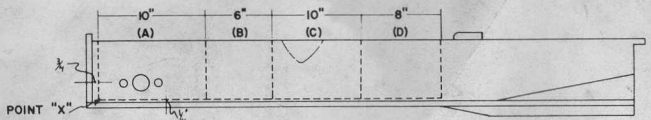
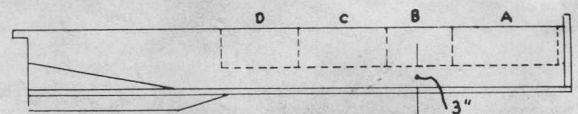

FIG 5
FIG. 7
The design of the Super "T" necessitates that the gear shift, brake and clutch assembly be moved rearward. (See Fig. 5 & 6)
To move pedal assembly and gear shift, the tunnel must be cut and sections interchanged. (Figs. 5 & 6)
Scribe areas of tunnel to be cut. Start at point "X" (see fig. 5), scribe back along tunnel 34 inches. At these points scribe up and over tunnel to a point 3 inches above floor pan on passenger's side (see fig. 7). Now scribe forward, 3 inches above pan, to a point 3/4 inch back from cowlings, then over tunnel to meet point "X".
Cut along scribed lines (fig. 5). Remove sections (B) and (D). Be careful not to cut tubes inside tunnel.